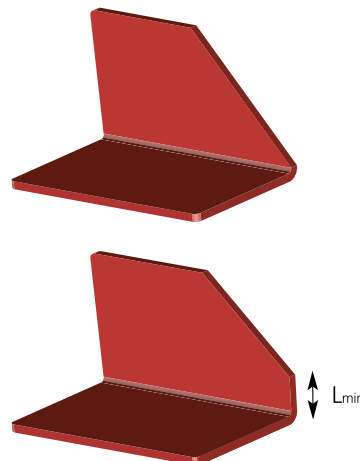

Fig. 8.22
- Avoid slanting edges on the edge of the bend. These distort during setting. The minimum height from which the slanting edge may begin is: $\frac{1}{2} \times \text{groove width} + \text{sheet thickness} = L_{\text{min}}$. (Fig. 8.22)